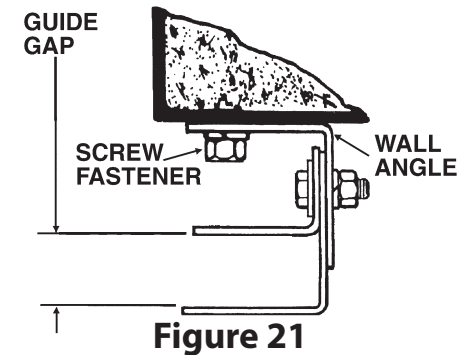

Figure 21
- If guides are flared, then bolt the middle angles and the outside angles to the wall angles, as shown in Figure 21.